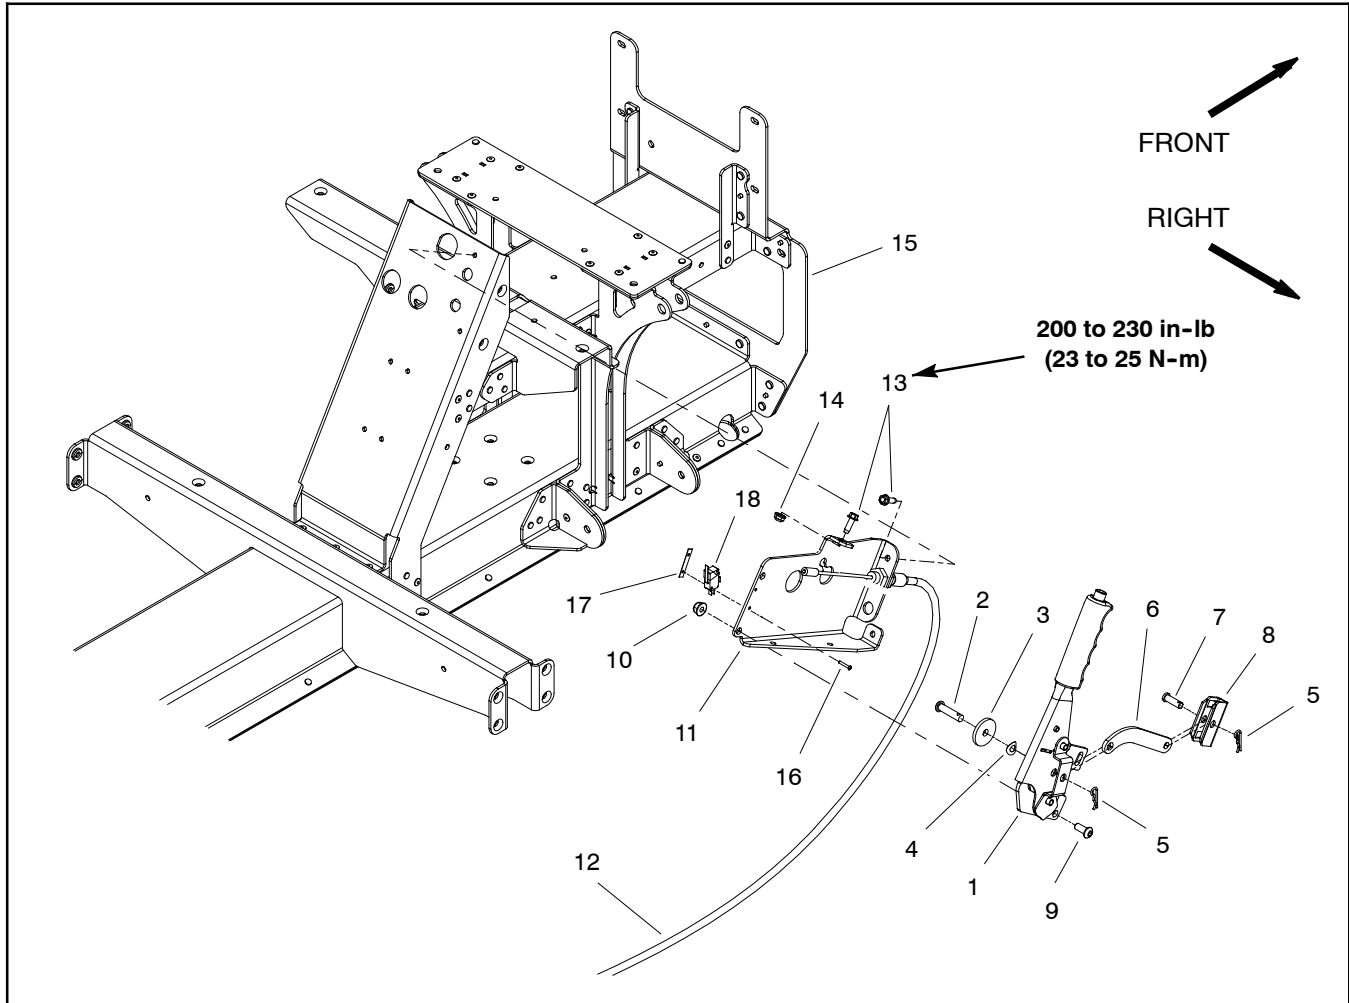
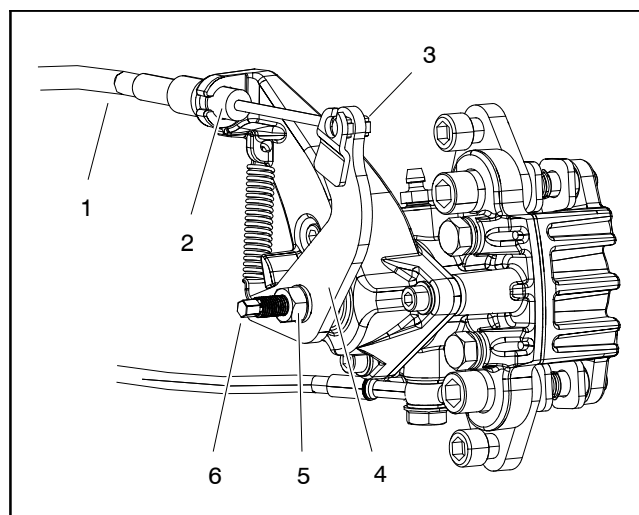

Figure 20
Figure 21
Disassembly (Fig. 20)
2. Disconnect both parking brake cables from rear brake calipers (Fig. 21):
B. Loosen parking brake adjustment by loosening lock nut and then loosen parking brake rod two (2) turns.
3. Carefully separate parking brake cables from four (4) clips on swing arm.
6. Remove clevis pin and hair pin that secure cable equalizer bracket (item 8) to parking brake link.
10. If necessary, remove parking brake lever components using Figure 20 as a guide.
Assembly (Fig. 20)
1. Install removed parking brake lever components using Figure 20 as a guide.
4. Connect both parking brake cables to rear brake caliper (Fig. 21):
D. Secure brake cables to swing arm with four (4) clips.